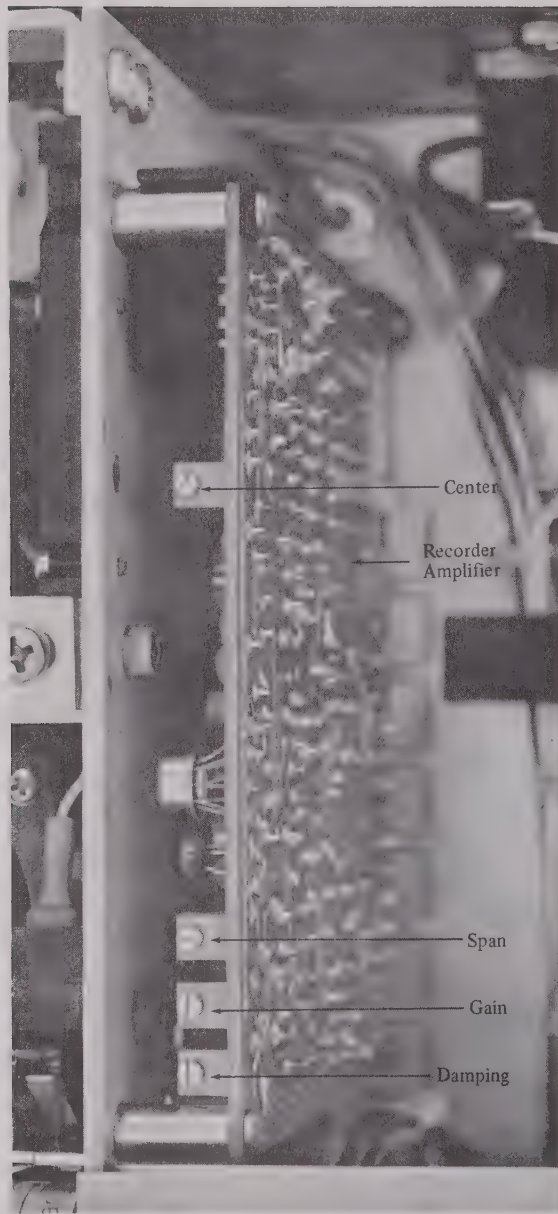

Figure 5.1.
5.3 RECORDER ZERO SET (See Figure 5.1)